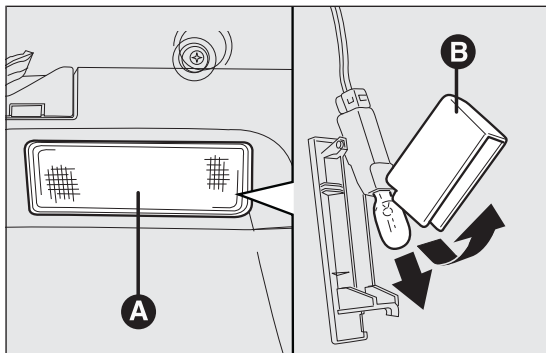

fig. 156
- ☐ remove the light A fig. 156 levering in the point shown by the arrow;